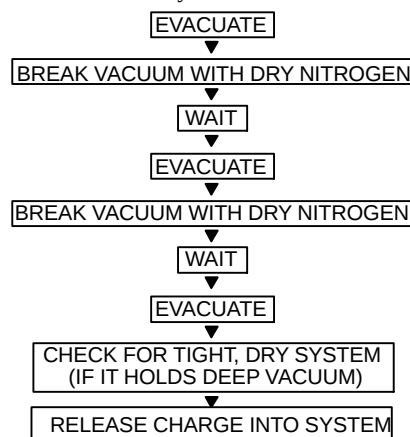

Fig. 16 – Triple Evacuation Method
The triple evacuation method should be used. Refer to Fig. 16 and proceed as follows:
- 5 Repeat this procedure as indicated in Fig. 16. The system will then be free of any contaminants and water vapor.